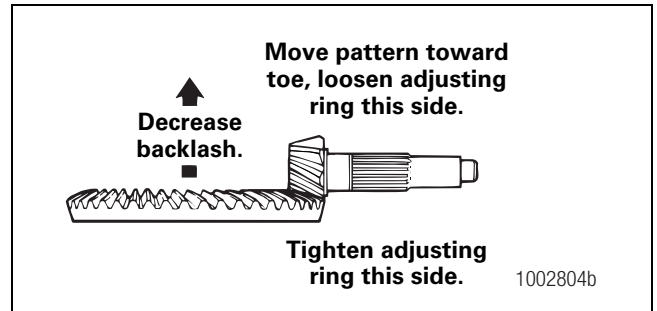

**Figure 5.55**
- **To correct a high-contact pattern:** Increase the thickness of the shim pack. When you increase the thickness of the shim pack, the drive pinion will move toward the ring gear. Figure 5.55.